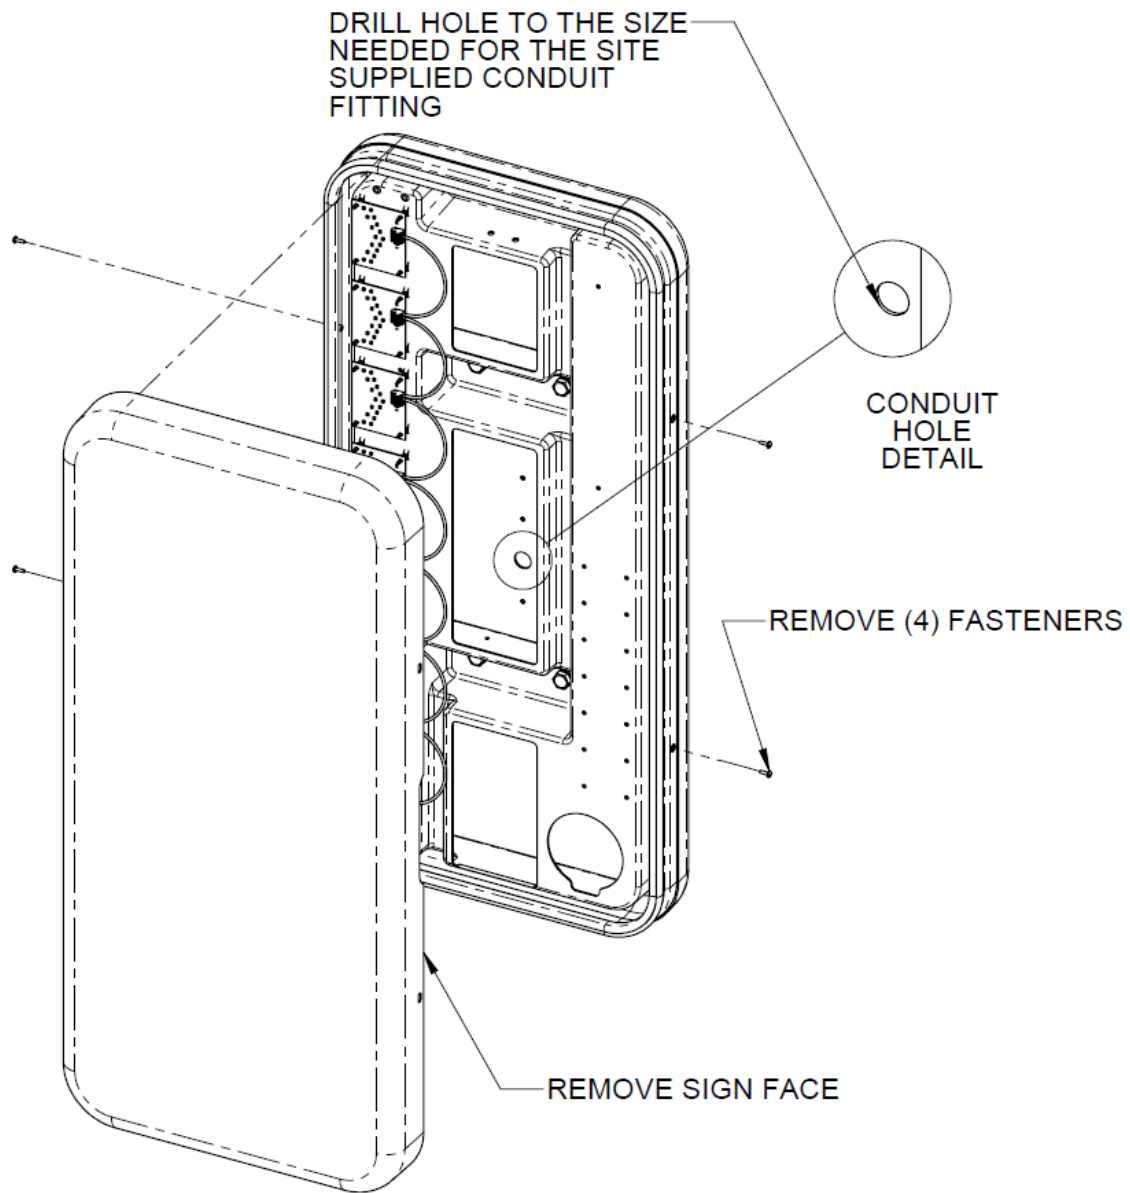
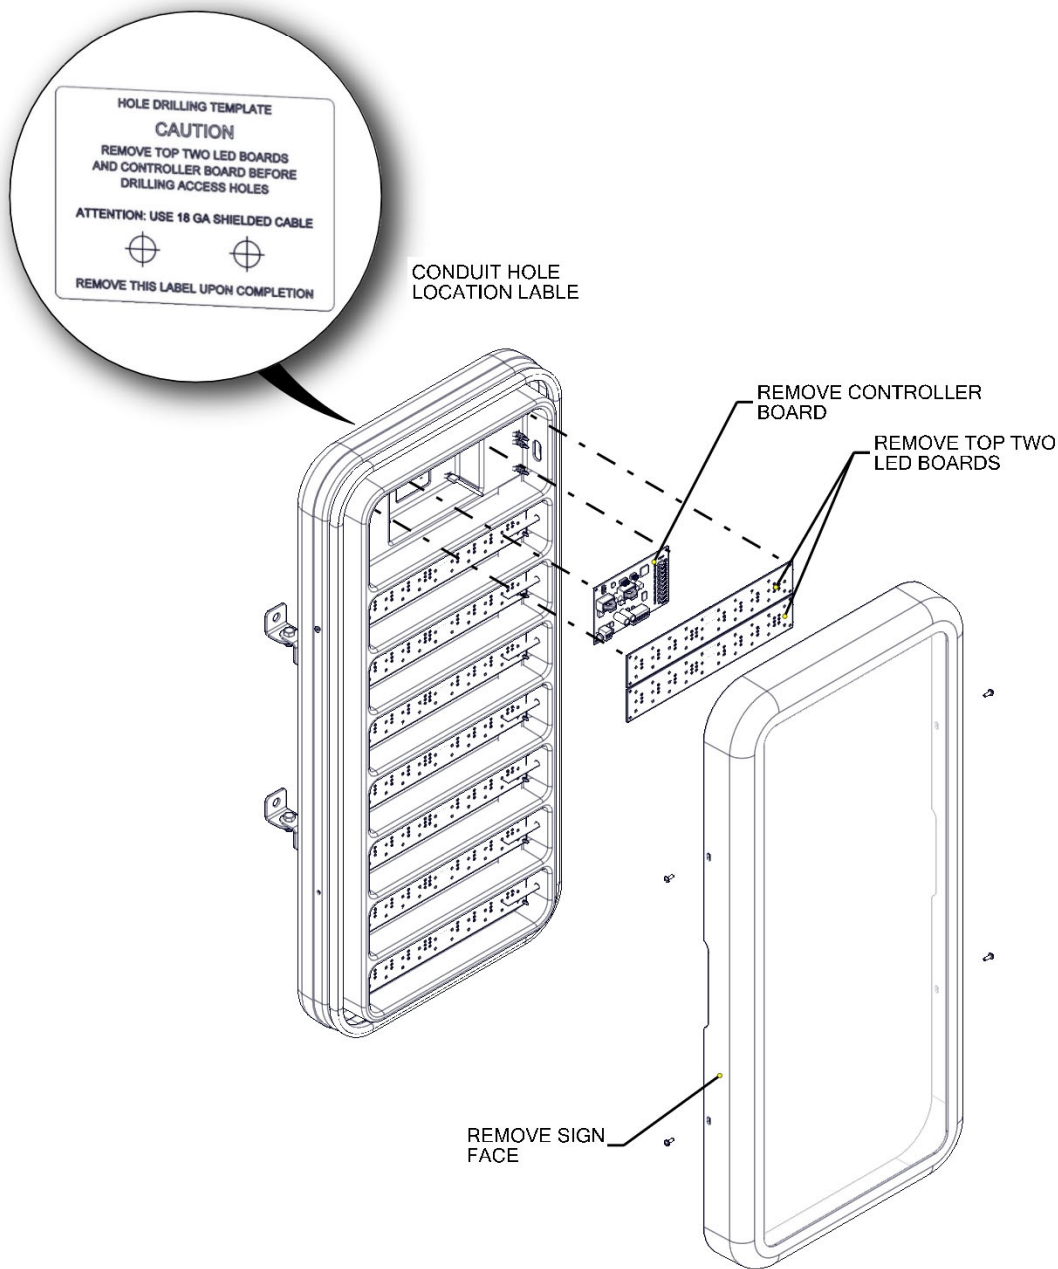

Figure 188 -Service Confirmation Sign Preparation for Installation, Basic or Deluxe
Figure 189 – Advanced Service Confirmation Sign Preparation for Installation
- **Advanced Service Confirmation Sign Only** - Remove top two LED boards and controller board before drilling access holes. Figure 189.
- The back cover of the sign enclosure has center marks to aid in the drilling process. Drill one hole to the size needed for the site supplied conduit connector. See the detail view in Figure 188 or Figure 189.